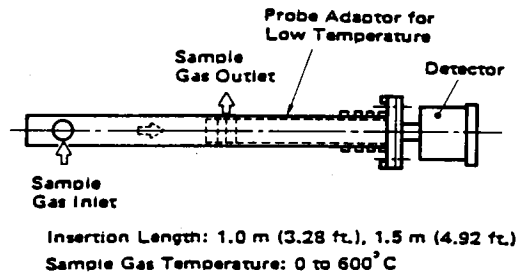

Figure 5.2 Blow Adaptor (low temperature type)
- b. Install the probe adaptor so it faces perpendicular to the direction of the measurement gas flow. It can be installed in any position between vertical down and horizontal---see Figure 5.2.